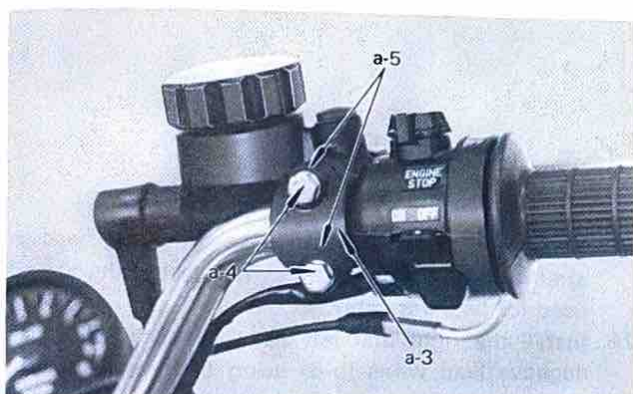

Fig. 30
22. a) Install the front brake master cylinder assembly using two bolts (a-4), two spring washers (a-5) and lever holder (a-3) contained in the vinyl bag (d). (Fig. 30)